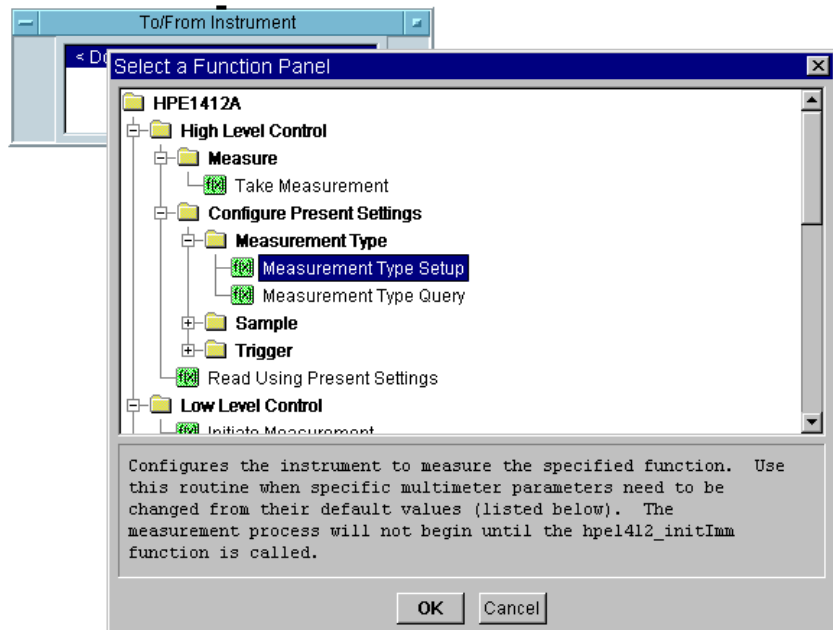
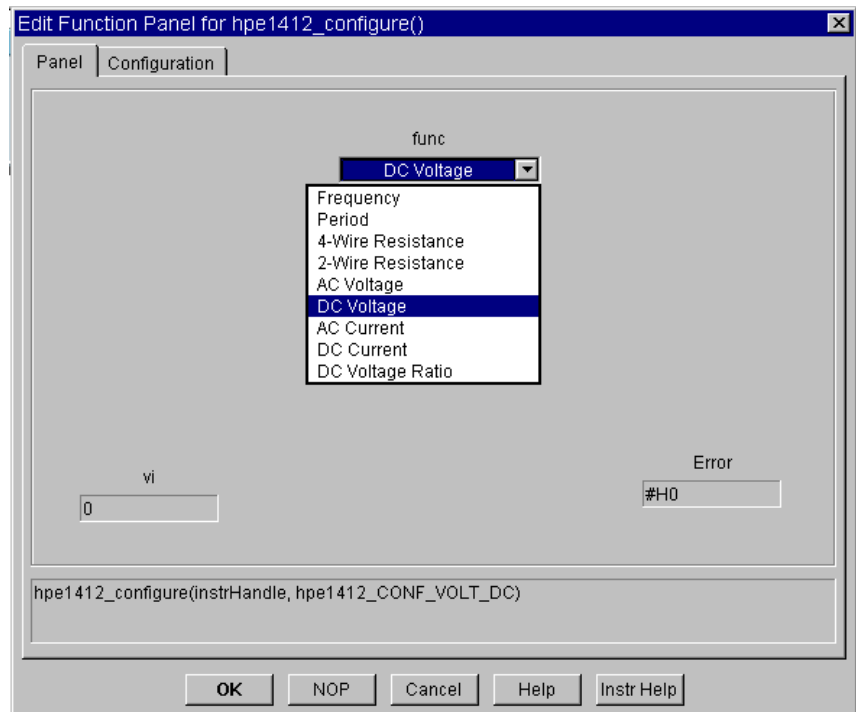

Figure 106 Selecting a Function for a VXIplug&play Driver
Figure 107 The hpe1412 Edit Function Panel
- 5 Double-click on the transaction bar labeled <Double-click to Add Function>, and Select a Function Panel is displayed as shown in Figure 106. Figure 107 shows the hierarchy of functions in the function panel. Notice that Help for the item selected is displayed in the dialog box.
- Click **Configure Present Settings** ⇒ **Measurement Type** ⇒ **Measurement Type Setup**. The **Edit Function Panel** is displayed. Under **func**, click to display the drop-down list. Select the default **DC Voltage**, as shown in Figure 107.